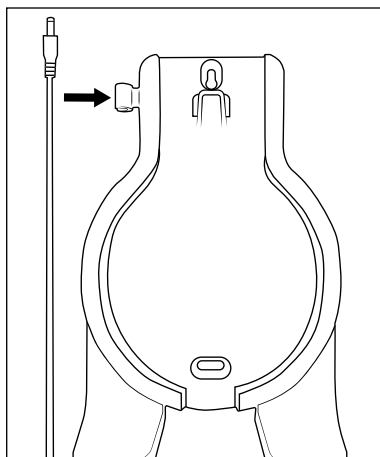

Fig. 5
- 6) Insert the barrel plug **13** of the mains adapter **12** into the wall bracket **15** (see Fig. 5).